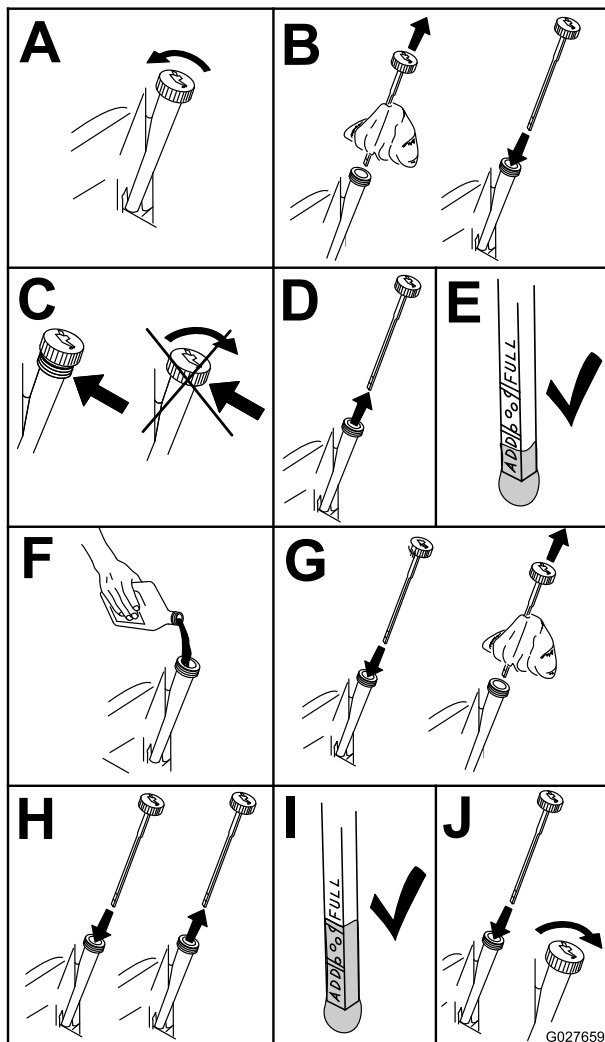

Figure 52
2. Shut off the engine, remove the key, and wait for all moving parts to stop before leaving the operating position (Figure 52).